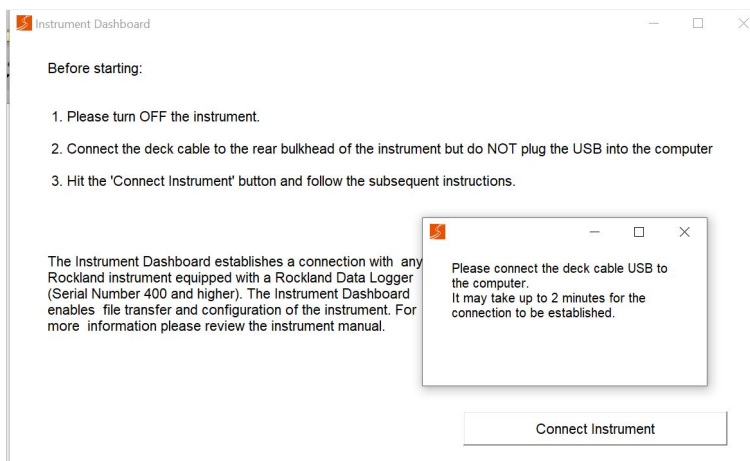

Figure 38: Zissou Essentials Prompt to Connect USB to Computer.
6. When prompted (Figure 38), plug the USB end of the deck cable to the computer and wait for the RDL Memory Module to be detected (up to 2 minutes). A notification should indicate when the connection has been established.